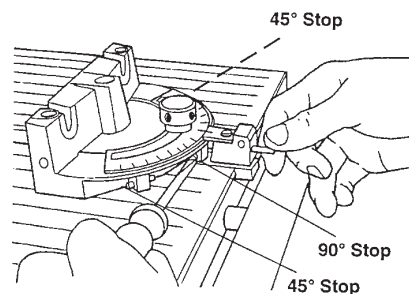

Figure C-53
- 52 Use a small screwdriver to back out the 90° stop screw 2 to 3 turns, see Figure C-53.